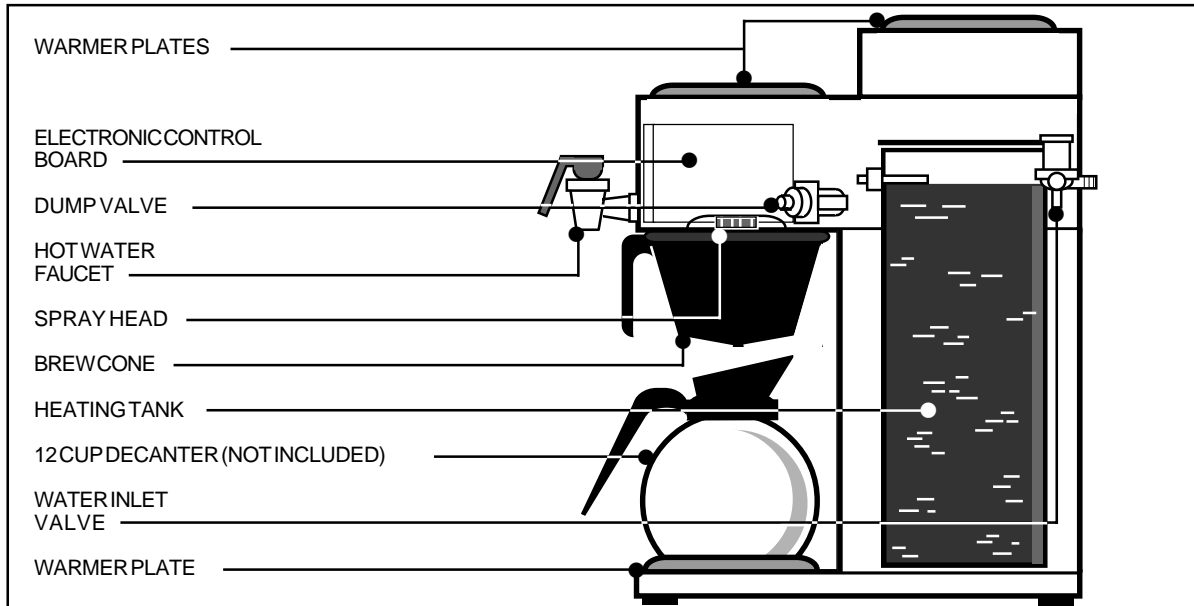

Figure 1. Alpha Brewing System, Basic Components.
2. Slide the brew cone into place. When pushed in against the stop, the brew cone fits into the slide rails and centers it under the sprayhead (see Figure 1. illustrating basic components).